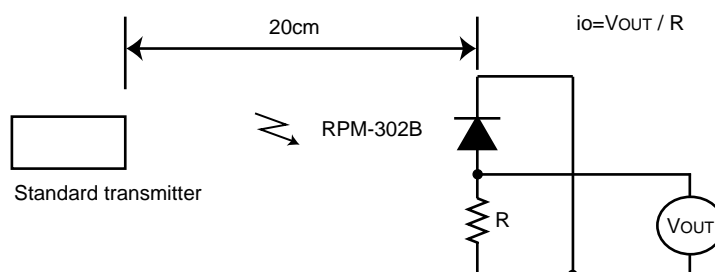

Fig.2 Measurement of standard transmitter proofreading
When standard transmitter output the signal at Fig.1 standard photodiode output become  $i_o=5\mu\text{A}_{\text{p-p}}$  under the measurement condition Fig.2.
- (1) All characteristics of the receiver in this specification are specified by supplying burst wave form (Fig.1) with ROHM standard transmitter (Fig.2 ).